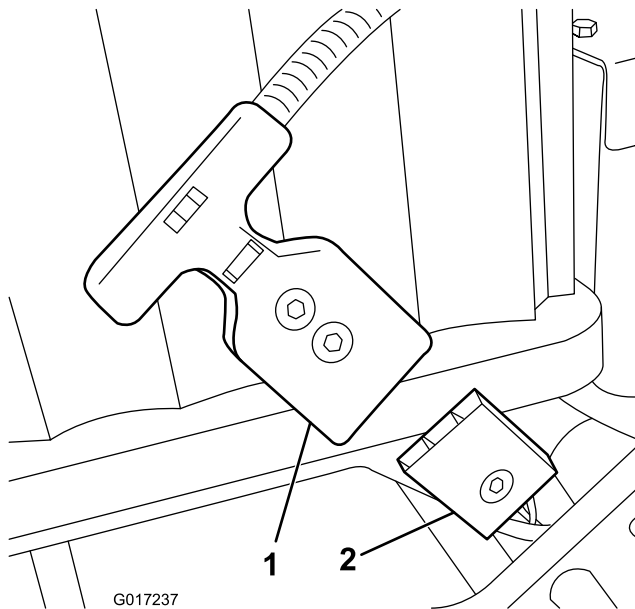

Figure 13
Note: If you cannot mate the battery pack receptacle with the machine wiring harness plug while the battery pack is installed, you can instead connect the harness to the battery pack and then install the battery pack. Remove the main power supply connector (Figure 13) from the battery base. Install the connector to the battery as described. Install the battery to the base, threading the attached wiring harness through
15. Connect the T-handle connector from the main wiring harness to the main power supply connector on the battery base (Figure 13).